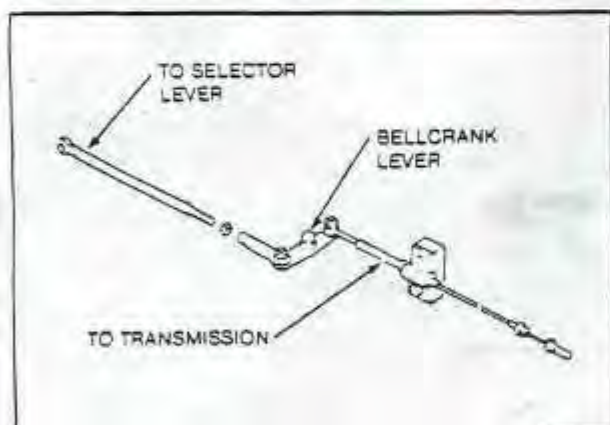

Fig. 10 SHIFT TUBE ADJUSTMENT
2. Raise the vehicle on a hoist and disconnect the shift tube from the bellcrank lever. *Fig. 10*